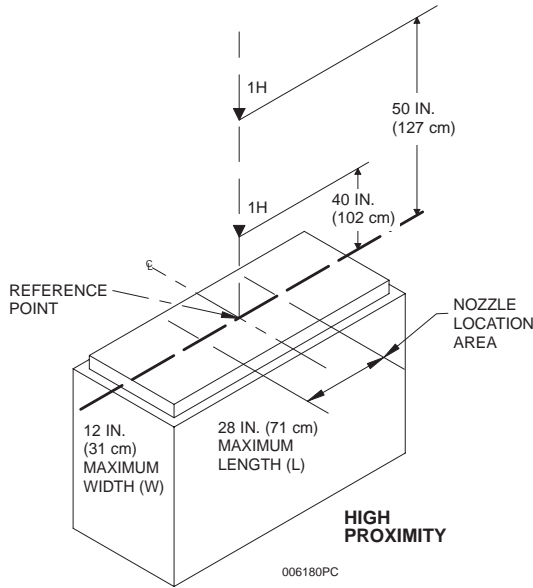

Figure 3-4a.
The Model 1H nozzle, Part No. 551029, is used for high proximity small range protection. This nozzle is a one (1) flow nozzle. **When using high proximity protection, the range cannot be under a backshelf.** This nozzle must be located on the front/back centerline of the appliance, 40 in. to 50 in. (102 to 127 cm) above the cooking surface, and aimed directly down within the "Nozzle Location Area" depending on the size of the hazard area. See "Nozzle Placement" chart below. See **Figure 3-4a**.